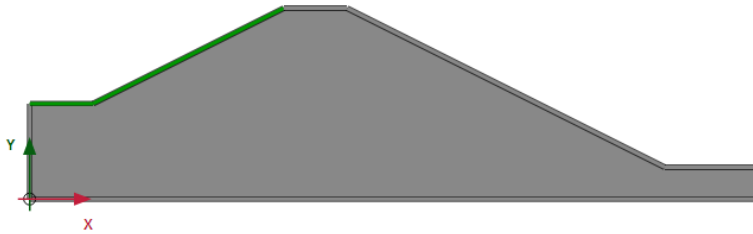

Figure 9.2 Indication of the local refinement of the mesh in the model
- Select the lines as shown in Figure 9.2 and in *Selection Explorer* specify a *Coarseness factor* of 0.5.